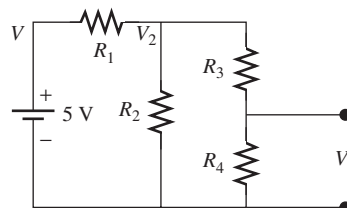

FIGURE P14.5 Resistor network.
- 14.5 (H)* A resistor network is shown in Figure P14.5, $R_1 = 5 \, \text{k}\Omega \pm 10\%$, $R_2 = 10 \, \text{k}\Omega \pm 20\%$, $R_3 = 2 \, \text{k}\Omega \pm 10\%$, and $R_4 = 8 \, \text{k}\Omega \pm 5\%$. Calculate the maximum and minimum value of V_4 .